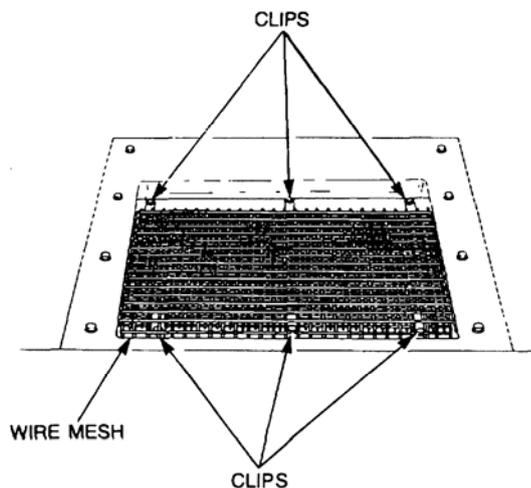

Figure 45 Condenser Wire Mesh Removal
- b. Remove the screws and clips securing the wire mesh to the fibreglass top panel (refer Figure 45).